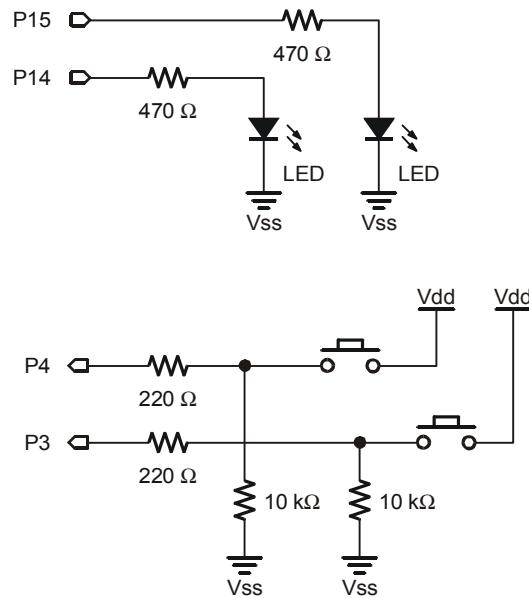
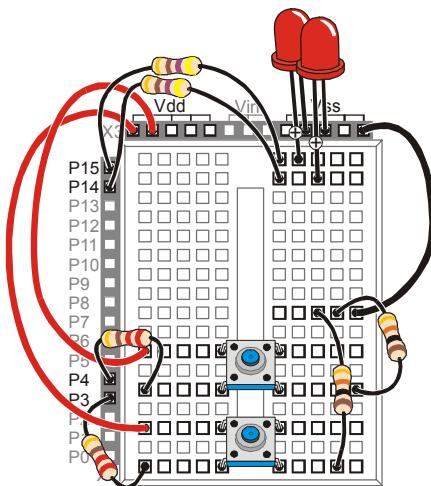

Figure 3-12
Figure 3-13
Figure 3-12 shows a second LED and pushbutton circuit added to the circuit you tested in the previous activity.
- ✓ Build the circuit shown in Figure 3-12. If you need help building the circuit shown in the schematic, use the wiring diagram in Figure 3-13 as a guide.
Connecting wires with dots: There are three places where wires intersect in Figure 3-12, but only two dots. Wires only connect if there is a dot at the intersection. The wire that connects the P4 pushbutton to the 10 kΩ resistor does not connect to the P3 pushbutton circuit because there is no dot.